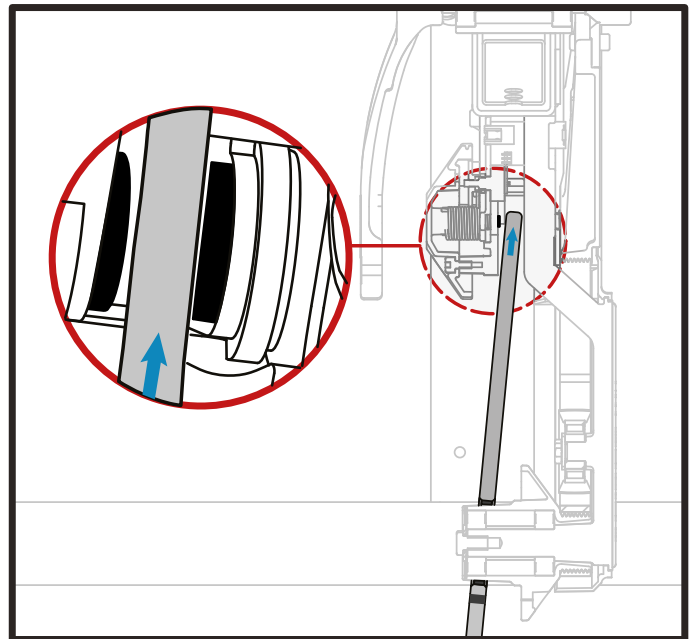

Figure 3. Location of Magnet
2. Slide the flywheel between the two magnets, refer to Figure 3.